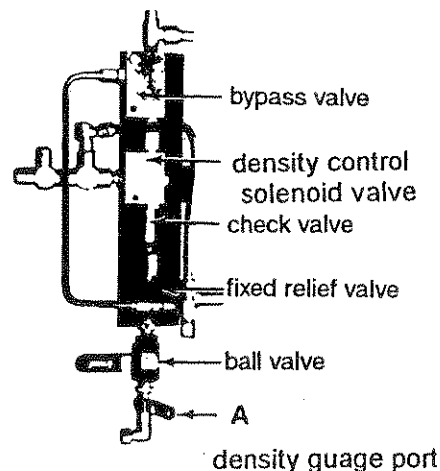

Fig. 54
2. Remove the 1/4" JIC cap on gauge port (A), see **Fig 54**.
3. Connect a 5,000 psi gauge onto the density gauge port (A).